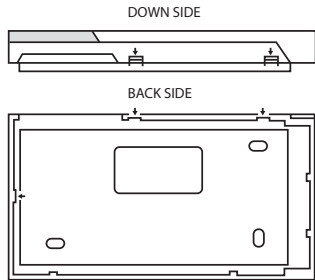

Fig. No. 3
1. Detach keypad holder from EKB3 front side . Keypad holder detach points are marked with arrows (see Fig. No. 3).
7. Infix the keypad into the holder (see Fig. No. 3).